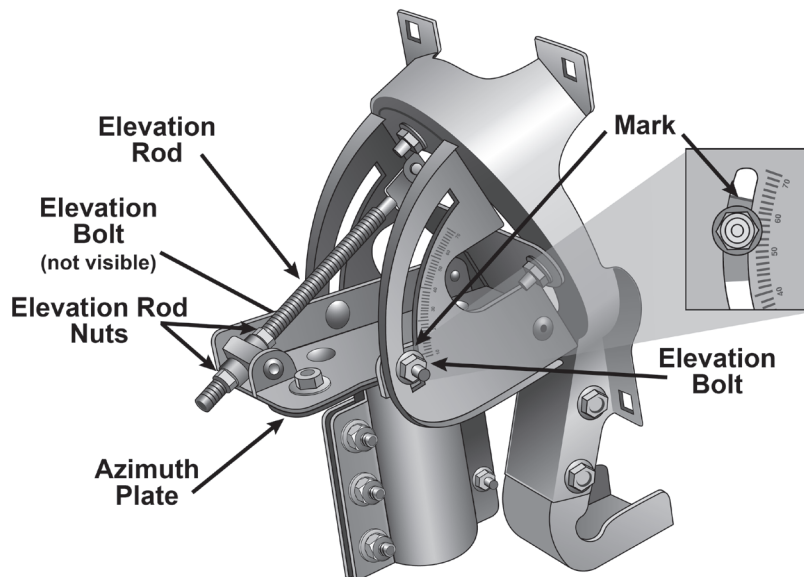

Figure 3. Setting the Rough Elevation Angle
- 7. Set elevation.** Set the elevation by loosening the elevation bolts and elevation rod nuts. Tilt the elevation and skew bracket to align the edge of the azimuth plate with the required angle on the elevation scale. Tighten both nuts on the elevation rod to hold the elevation, but do not tighten the elevation bolts at this time (see Figure 3).